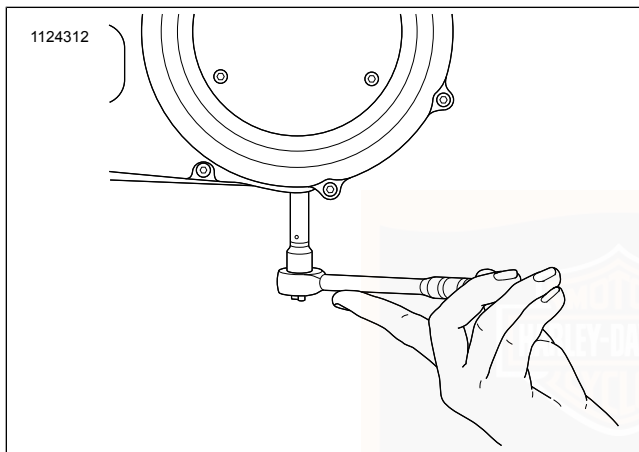

Figure 60. Removal/Installation of Chaincase Drain Plug
3. See Figure 60. Drain primary chaincase.